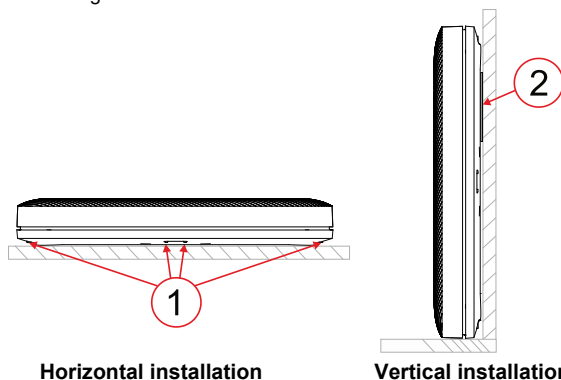

Figure 1: Types of installation and description of external parts of the product
- Open the product cover and insert the (AAA) batteries into the battery holder (6). Mind the correct polarity.
- When the second battery is inserted into the detector, an enrolment signal will be transmitted to the control panel. If a weak battery is inserted, the LED (3) will flash yellow (at 2 Hz).
- In the case of vertical installation - Close the product cover, secure the cover with locking screws and check that the product is properly closed, and position the product in such a way that it rests on one side of the ground. Attach the magnetic sticker (2) to the built-in metal plate at the rear side of the product, see Fig. 1. If the vertical installation type is utilized, the detector responds to a larger amount of liquid (due to a higher level).
- The product reports an alarm/flood whenever any pair of detection pins (1) are connected.